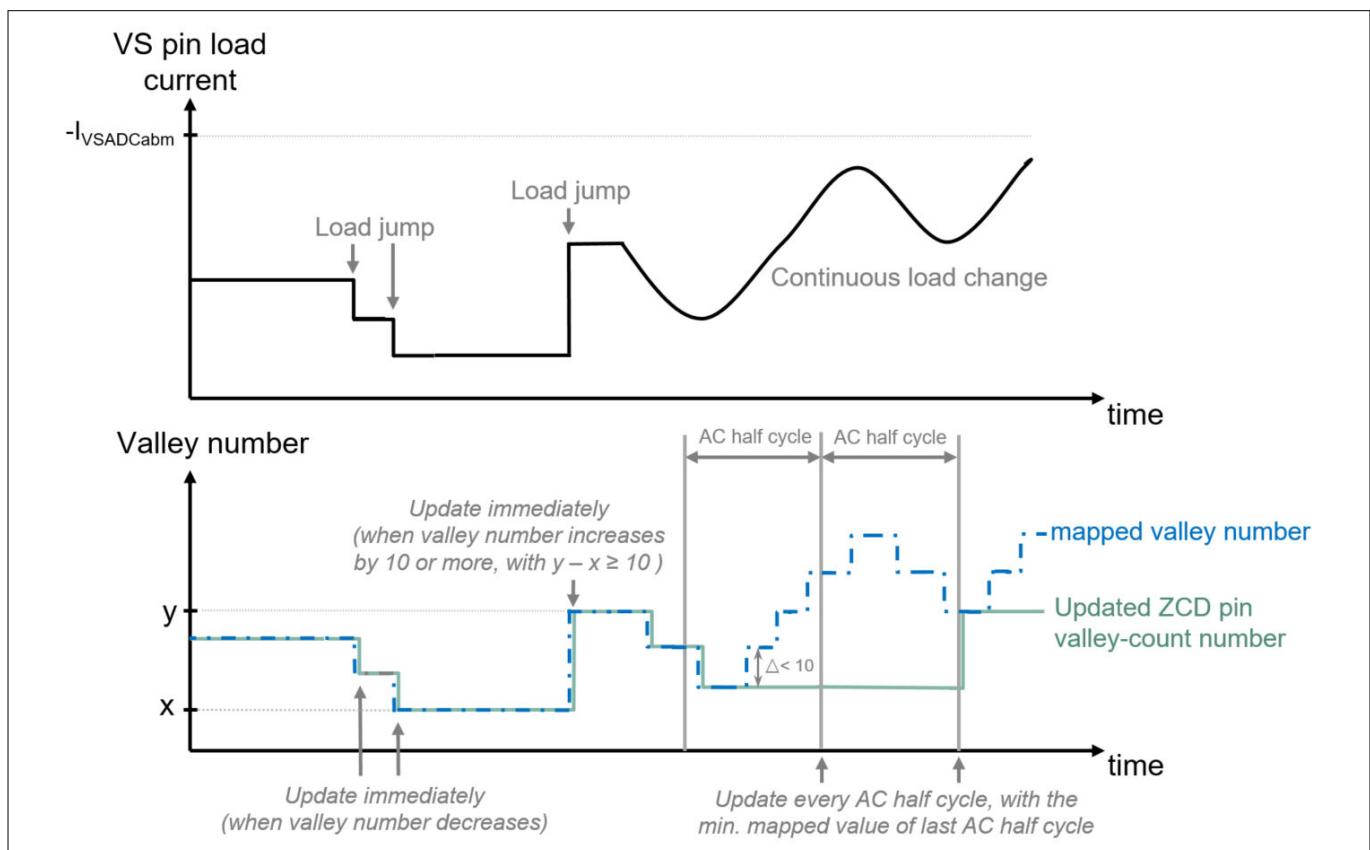

Figure 16 Illustrative example of the QRM valley selection hysteresis mechanism
as shown in Figure 16. During each AC half cycle, the controller adjusts the on-time to stay in the selected valley number. In this way, the number of valley jumps is limited to a minimum.
2. When a load jump happens, if the valley number has to be decreased, it happens immediately. For the case of valley number increase, if the load jump results to a valley number increase by 10 or more, it happens immediately. Otherwise, the change happens only at the start of the next AC half cycle, as shown in Figure 16.